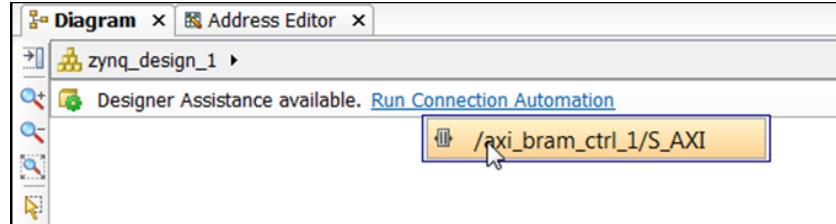

Figure 19: axi_bram_ctrl Selection
5. Click **Run Connection Automation** again, and select the remaining option **/axi_bram_ctrl_1/S_AXI** (FIGURE 19).